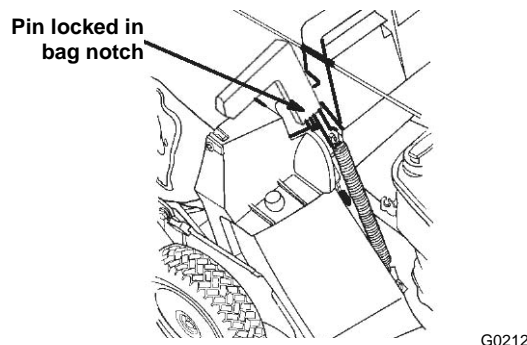

Figure 11
5. Pull the discharge door handle forward until the pin clears the catch, and move the handle rearward until the pin locks in the bag notch (Fig. 11).